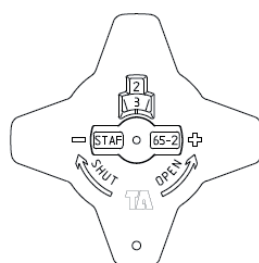
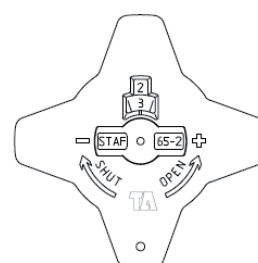

Fig. 1 - Fully closed
Fig. 2 - Valve open by 2.3 turns
All distribution networks, even the simplest, are made up of different branches, whose flow rates need to be defined at the design stage and must then correspond to the values calculated in the course of operation. In an unbalanced system (Fig.1), the flow rate to the circuits nearest the pump is too high, while the flow rate to the circuits furthest from the pump is too low. The resulting temperature differences between different rooms not only detract from comfort but also increase energy consumption. The use of thermostatic or control valves in this situation can cause noise. The installation and correct setting of **STAF-SG Series** balancing and control valves (Fig. 2) on boiler room manifolds, at the bottom of risers and upstream of heat production and exchange units or zones ensures correct flow distribution, thus offering immediate benefits in terms of comfort and energy saving, as well as optimising the efficiency of the control system.
1. Fully close the valve (Fig. 1)
2. Open the valve by 2.3 turns (Fig. 2)
The indicator should show the setpoint, in this case 2.3 (Fig. 2). For correct valve selection and pre-setting (pressure drop), consult the flow curve, which shows the pressure drop at various setpoints and flow rates for all valve sizes. To conduct a field check, using differential pressure gauges (BVT-SET Series), remove the plug and insert the needle through the test point seal; the test points are self-sealing.